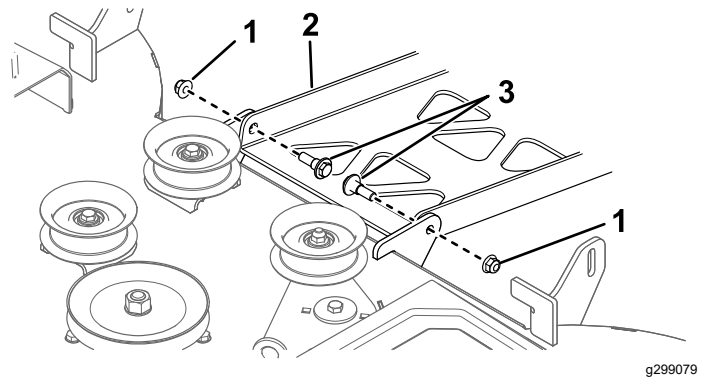

Figure 63
- At the rear of the mower deck, remove the 2 shoulder bolts and nuts securing the deck to the pivot pan (Figure 63).
9. Secure the rear of the deck to the pivot pan using the shoulder bolts and nuts removed previously (Figure 63).